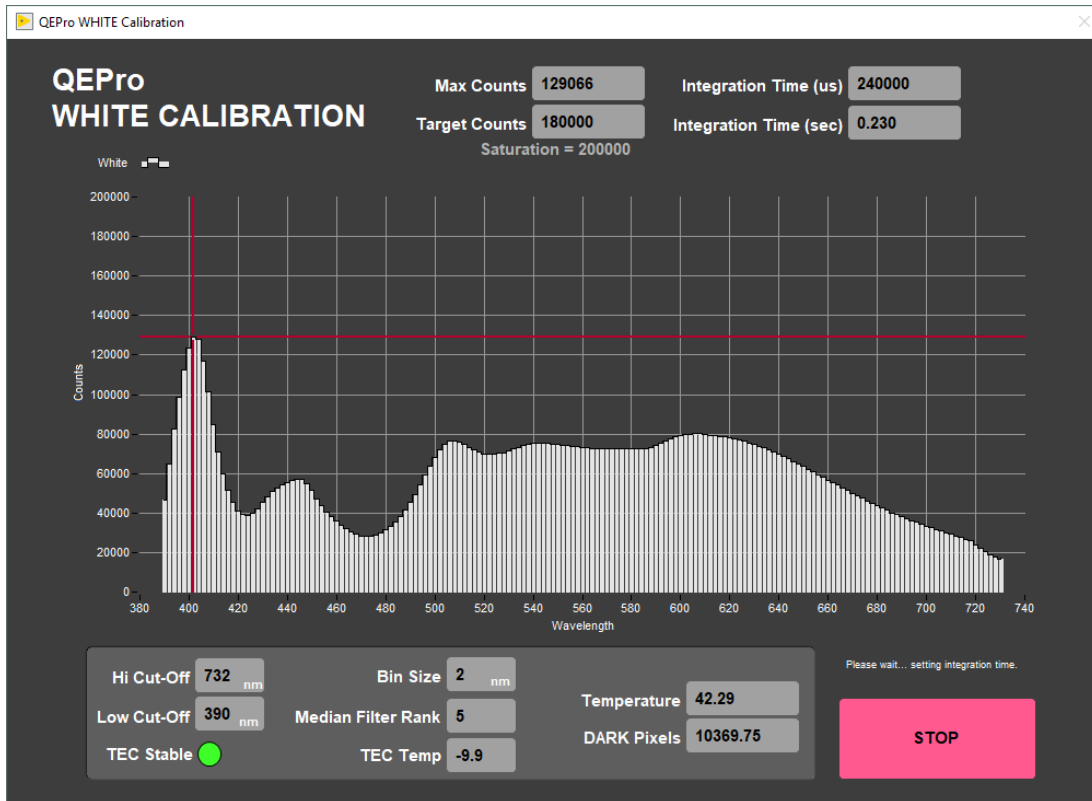

Figure 23. White Calibration Screen
a. The logger moves the QE Pro integrating sphere over the WHITE calibration standard and lowers the sensor until it touches. The sensor begins the white calibration measurements (**Figure 23**) based on the set saturation level of the total response (**Figure 7**).